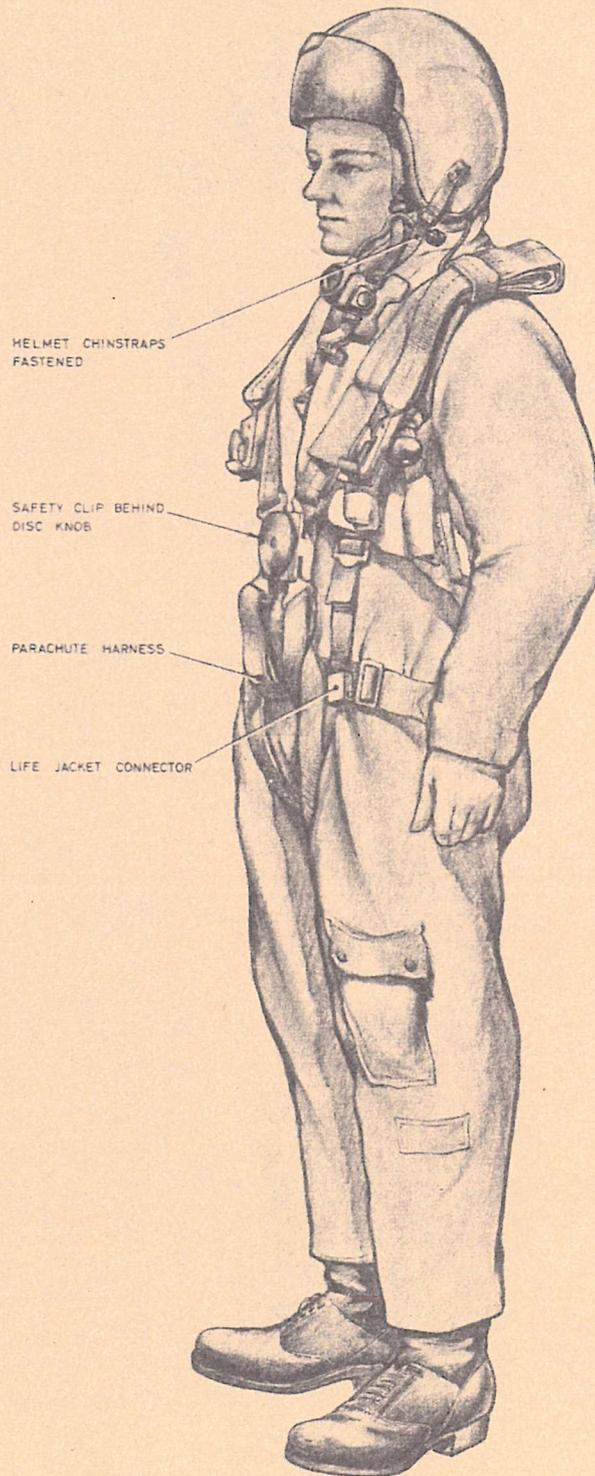
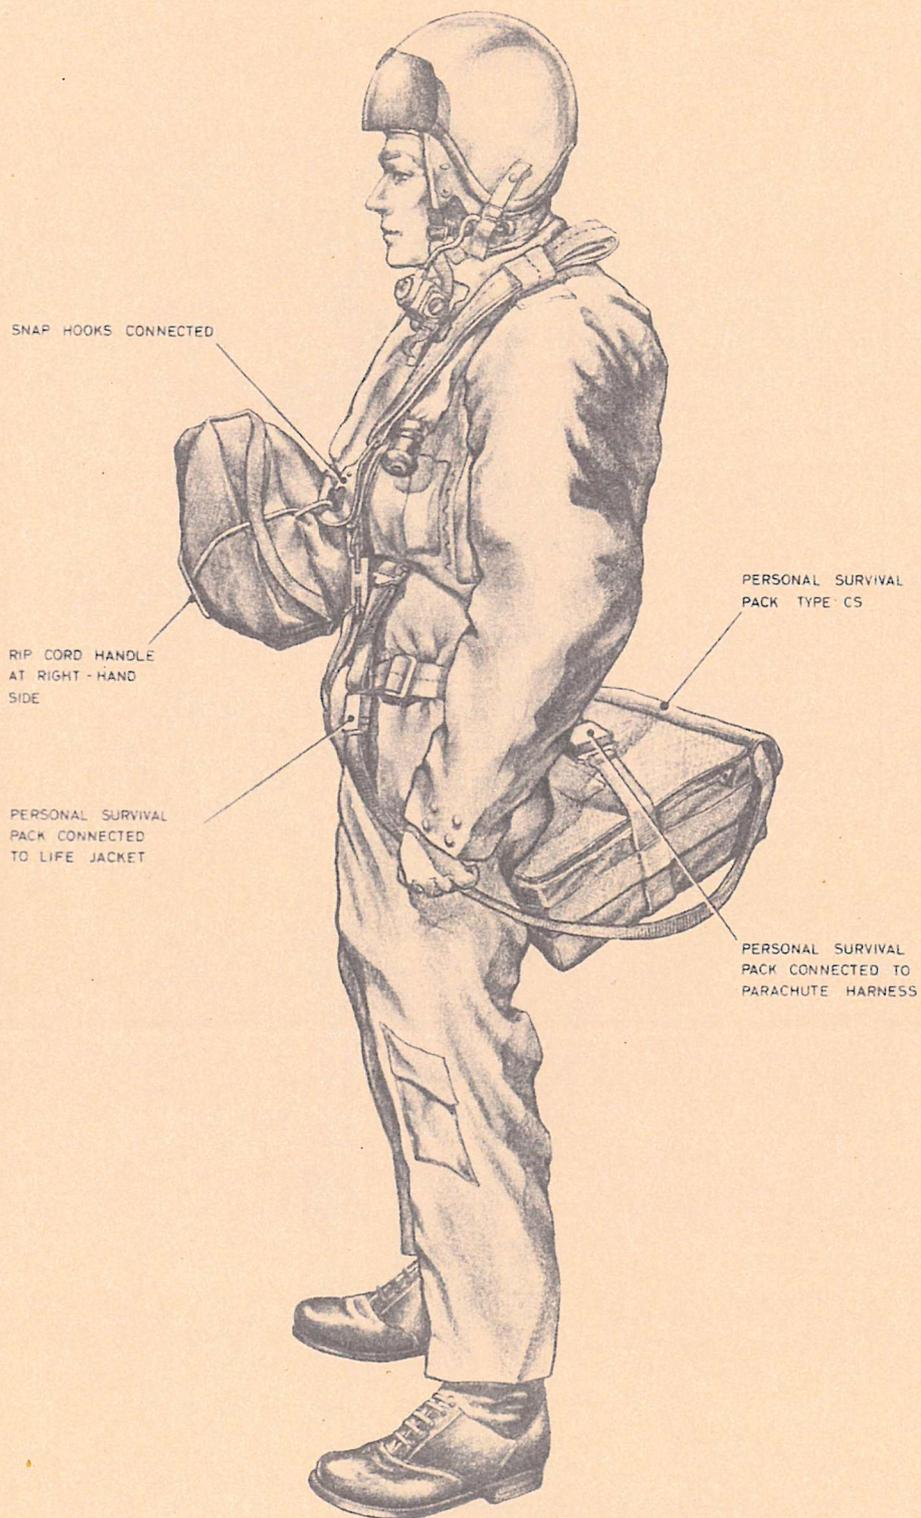

Fig. 1. Fitting the equipment: stage 1
Fig. 2. Fitting the equipment: stage 2
(1) Type ZC harnesses are provided at the following stations in M.R. Mk. 2 and T Mk. 4 aircraft.
(2) Type ZC harnesses are provided at the following stations in Mk. 3 aircraft.
4. The parachute assembly is fitted in two stages. Stage 1 deals with the parachute harness (*fig. 1*) which is worn at all times and stage 2 (*fig. 2*) deals with the fitting of the parachute and personal survival packs.